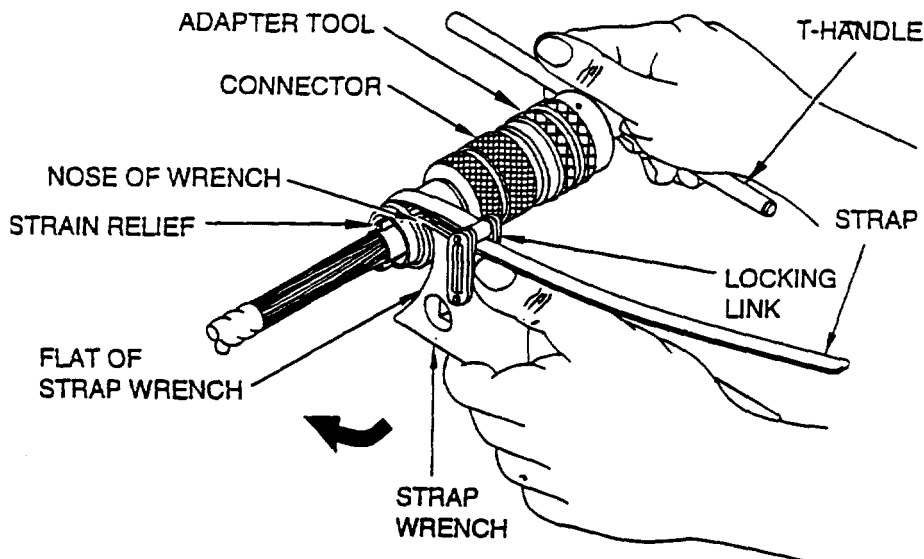

Figure 55. Assembly Accessory
h. Assemble cable (harness) by sliding strain relief along cable assembly. Engage threads of strain relief to connector. Hand tighten to connector. Hold connector stationary with applicable adapter tool and T-Handle. Install strap wrench around strain relief. Apply force clockwise, as viewed from rear of connector, an additional 1/4 turn (Figure 55).